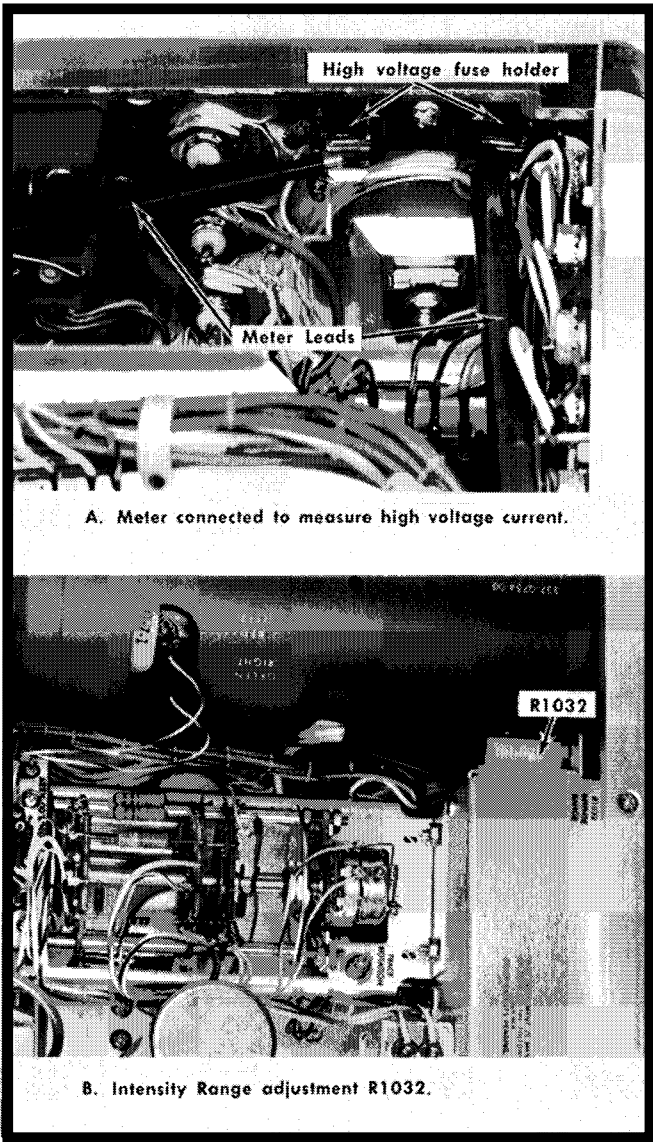

Fig. 6-7. Setting the high voltage current.
- c. Connect an ammeter across the fuse holder (Fig. 6-7). Set the ammeter range to 1A.